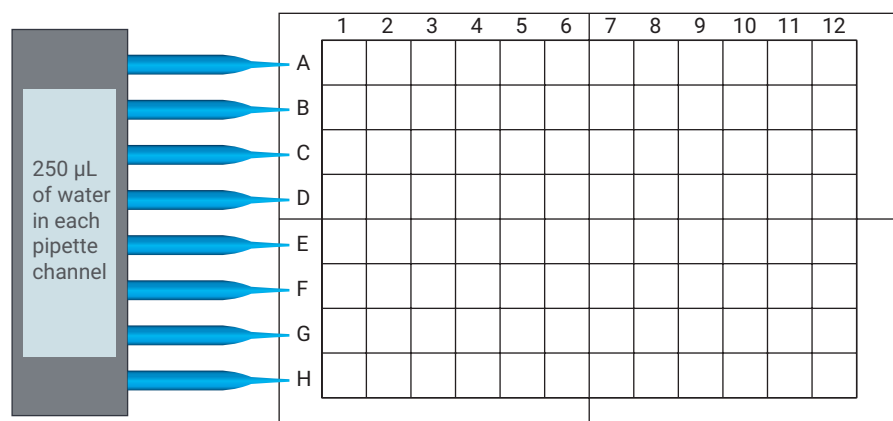

Figure 2. Filling the moat wells using an 8-channel pipette.
4. Add 1.0 mL of cell culture-grade water to each of the moat wells (four of them in total). This can be done by setting an 8-channel pipette to 250 μL and pipetting into two sections at a time. Dispense in the moat wells parallel to columns 1 and 12 to fill all four sections, as shown in Figure 2.